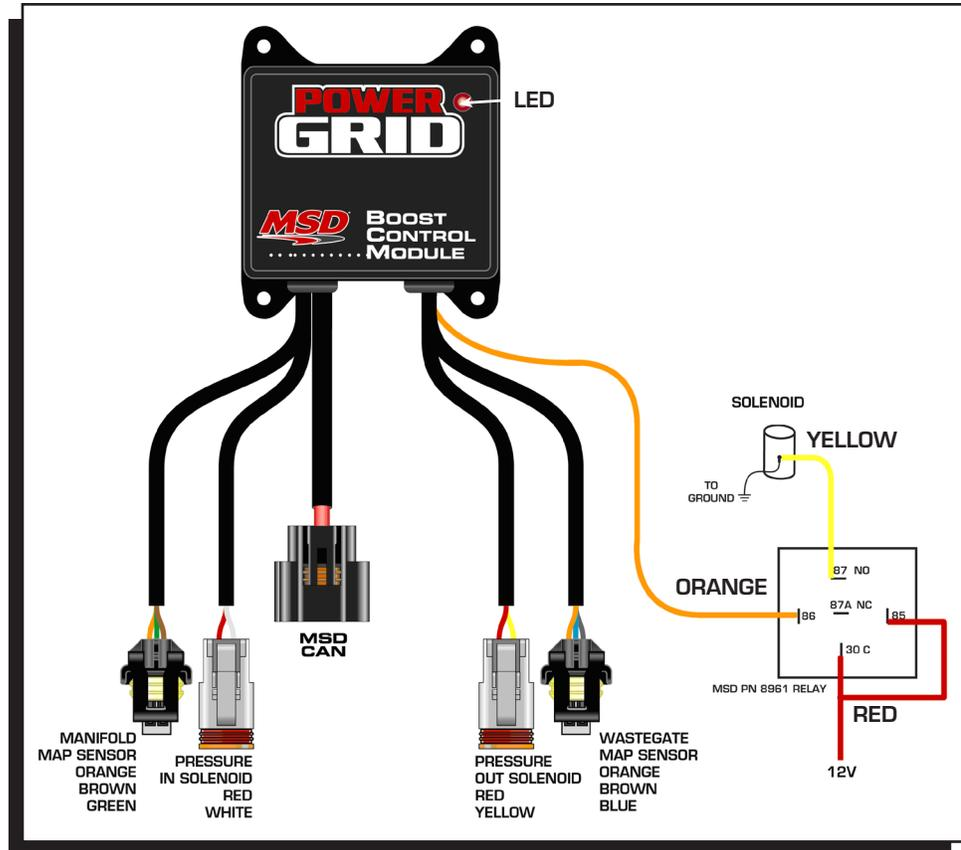

Figure 3 General wiring
3. The orange wire switches to ground when active. Use a relay to activate devices that consume more than 2 amps (Figure 3).
Boost Pressure Switch: The Orange wire switches to ground while the set boost pressure is exceeded. The Orange wire can sink up to 2 amps of current (continuous) to ground(Figure 3). The default setting is 75PSI and can be adjusted from 0psi to 75PSI.